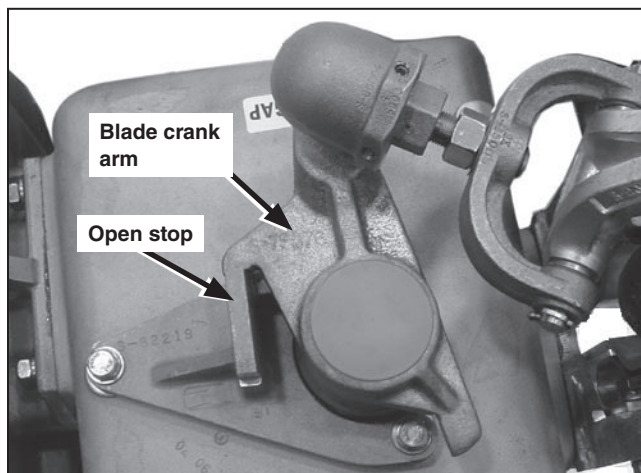

Figure 8. Top of brain, blade crank arm stop. Open position.
- STEP 3.** Make sure when the circuit-switcher reaches either the fully **Open** or fully **Closed** position, the drive-shaft crank strikes firmly against the appropriate drive-shaft crank stop. See Figure 8. Also, note whether each rotating-insulator lever makes contact with its respective open stop.